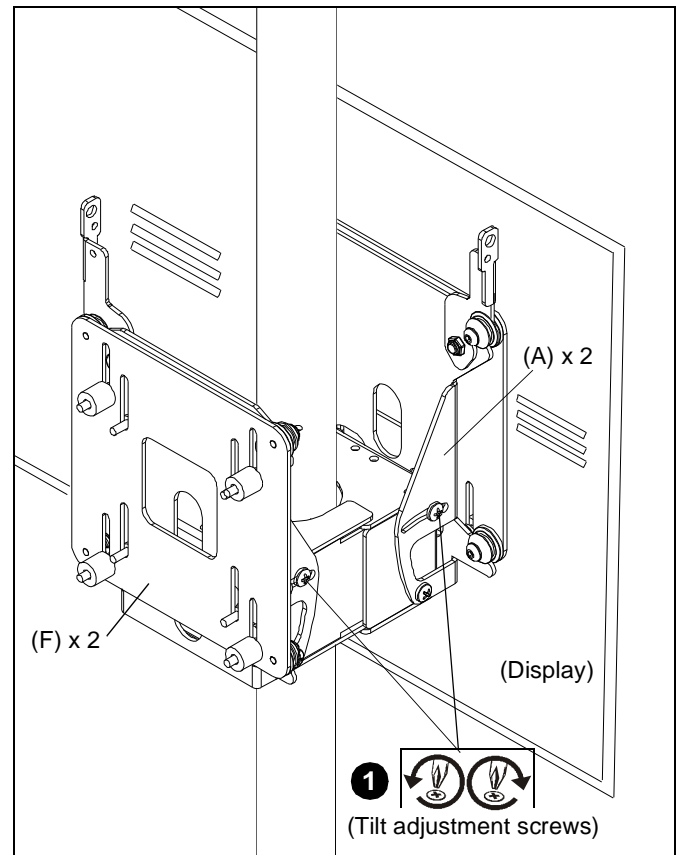

Figure 8
1. Adjust tilt by loosening (slightly) tilt adjustment screws on each side of FDP (A), adjust to desired angle, then tighten tilt adjustment screws. (See Figure 8)